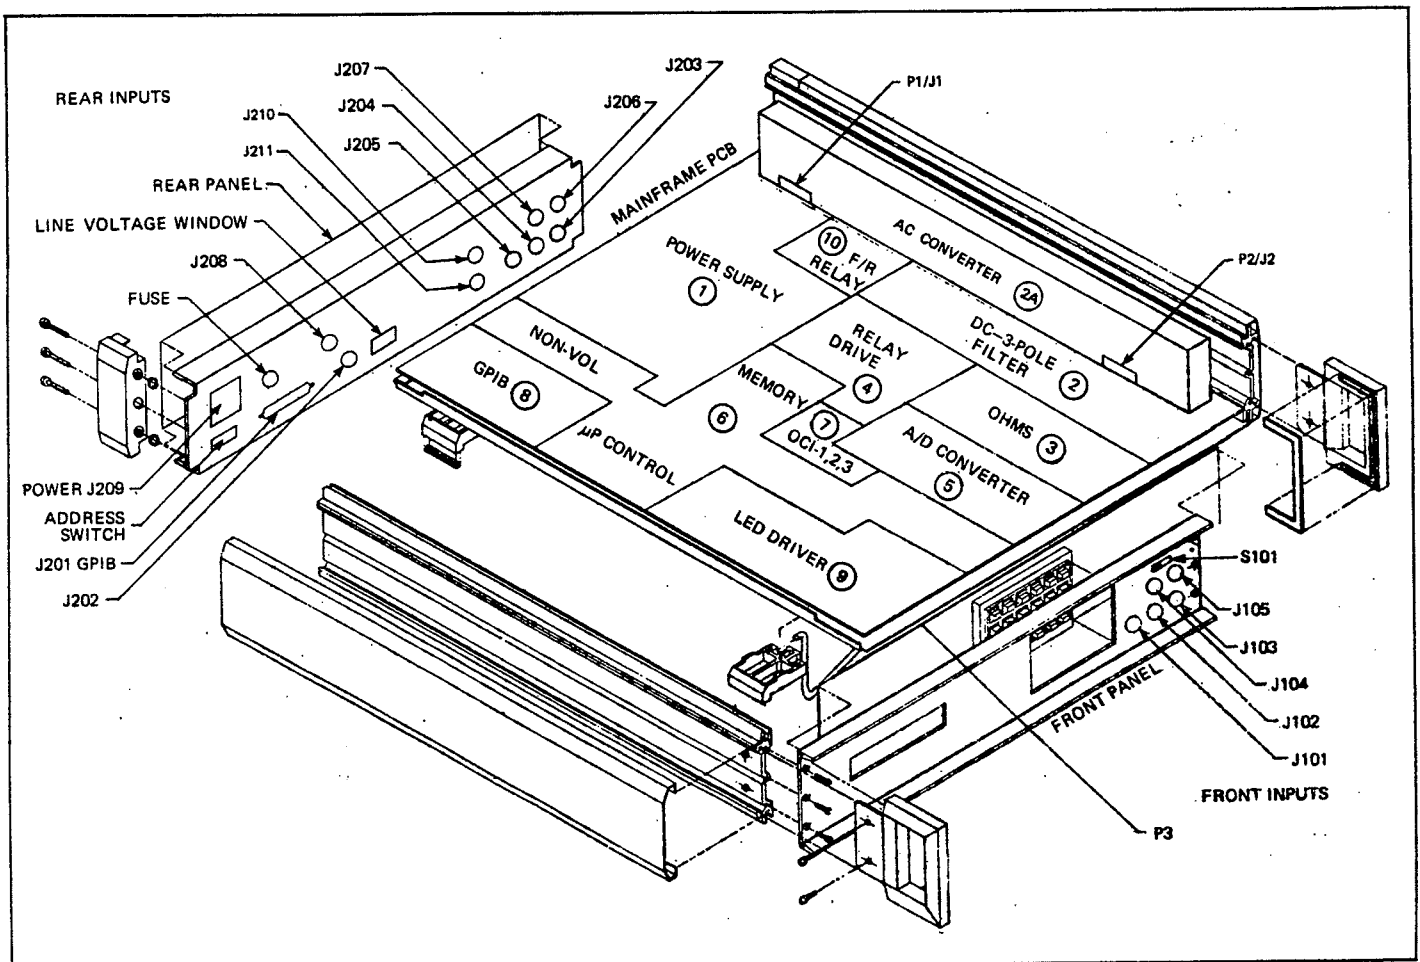
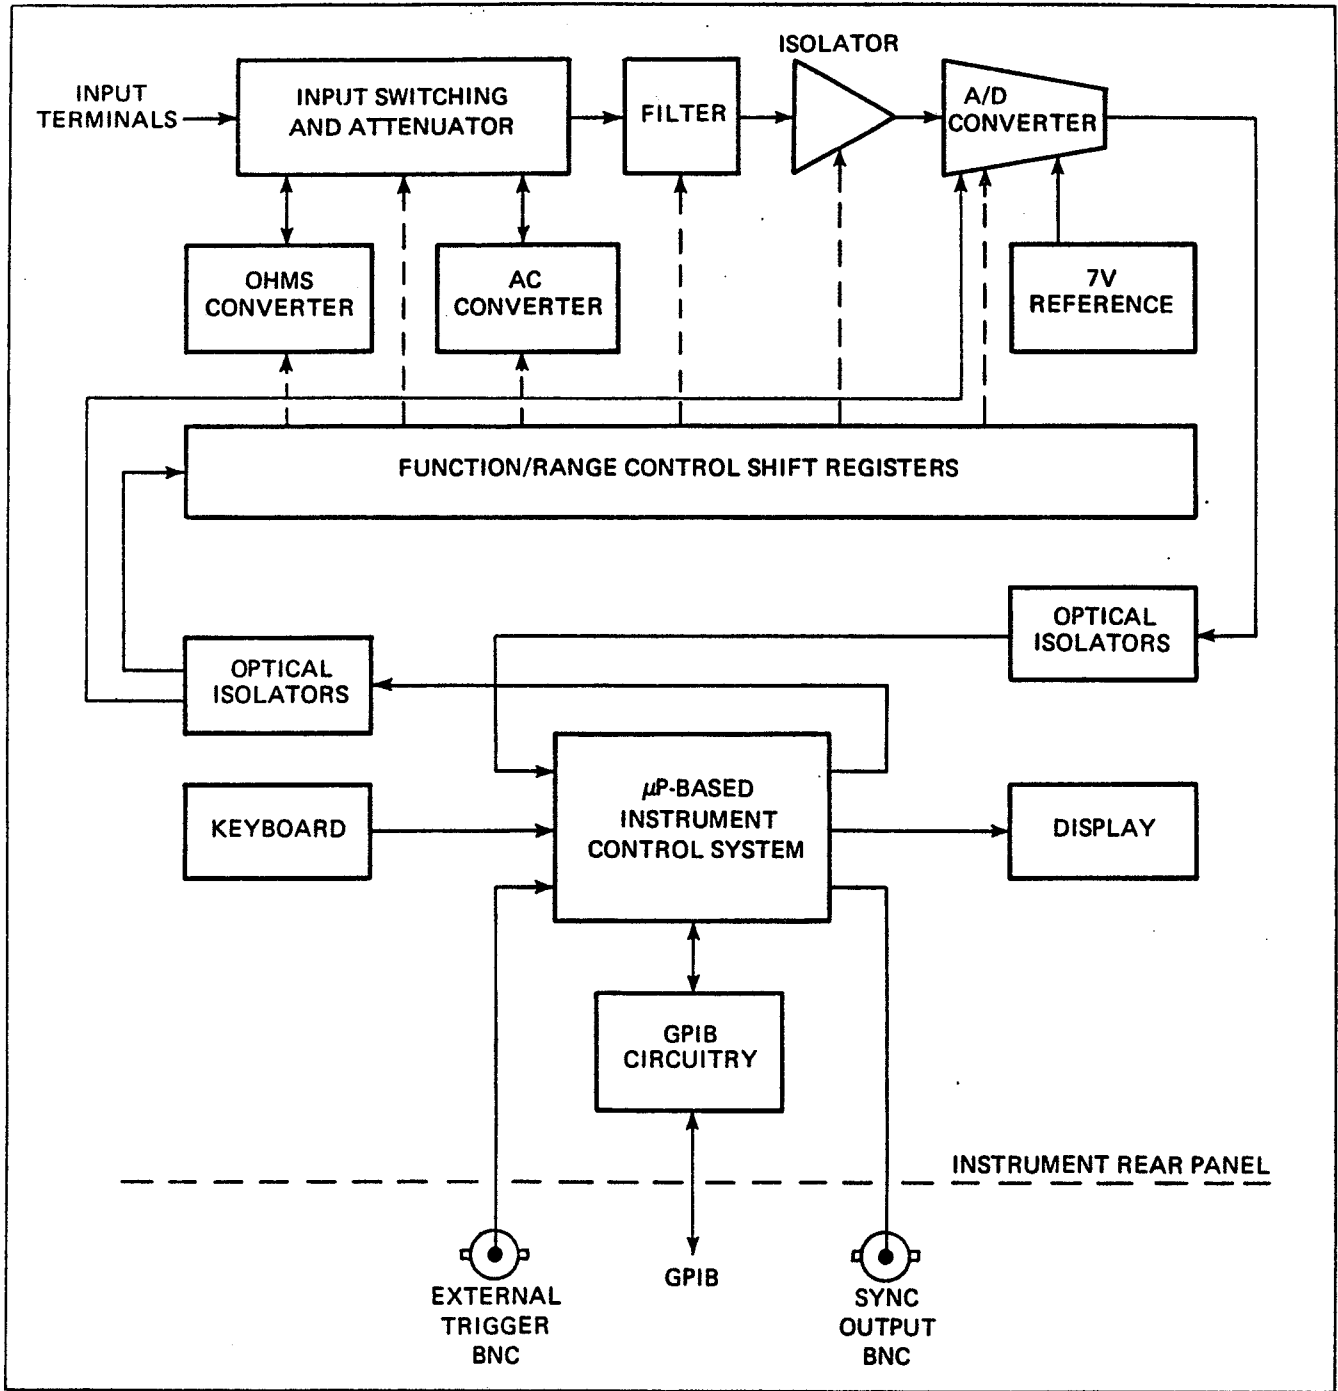

Figure 4.1 - DMM Sectional Drawing
Figure 4.1A - DMM Block Diagram
4.1.2 The physical configuration drawing illustrated in Figure 4.1 is an exploded chassis view which displays the DMM main sections comprising the main PCB. The numbers identified with each section are the discussion sequence followed in the text. The DMM block diagram is presented on Figure 4.1A.
4.3.1.1 The Analog section of the DMM is positioned in the Guard area of the PCB assembly. This includes Section 2, 3, 4 and 5 of the board as shown in Figure 4.1, an exploded view of the DMM.
4.3.6.1 The Model 5005 DMM features an averaging AC to DC converter that is assembled in a separate PCB located in section 2A of the DMM Sectional drawing Fig. 4.1, and plugs into connectors J1 and J2 on the motherboard. The AC converter is configured with a Scaling Amplifier Q1-Q8; Active Rectifier section CR3 and CR4; and a ripple filter network. The converter output amplifier employs U1 op-amp to generate -1VDC full scale.
4.3.7.1 The Model 5006 DMM features an RMS AC to DC converter that is assembled on a separate PCB and located in section 1A of the DMM Section drawing Figure 4.1. The PCB plugs into connectors J1 and J2 on the motherboard. The RMS converter is configured with a Scaling Amplifier - Q3, AR1, range switching and input clamp networks; active DC Rectifier-Amplifier Q4 through Q9, CR1 and CR2; Logarithmic (log) Amplifier - Q10 through Q14; RMS Output Amplifier Circuitry - AR2, DC attenuator, and a ripple filter.